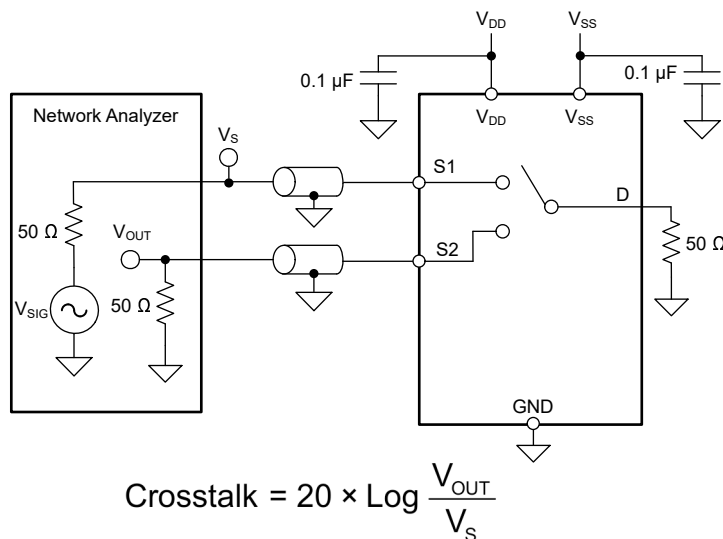

图 7-11. Crosstalk Measurement Setup
Crosstalk is defined as the ratio of the signal at the drain pin (D) of a different channel, when a signal is applied at the source pin (Sx) of an on-channel. 图 7-11 shows the setup used to measure, and the equation used to calculate crosstalk.